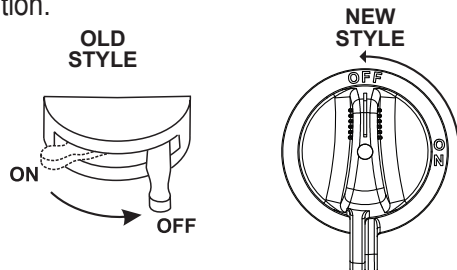

Figure 68. Battery Switch (OFF)
6. Place the **battery switch** (Figure 68) in the **OFF** position.